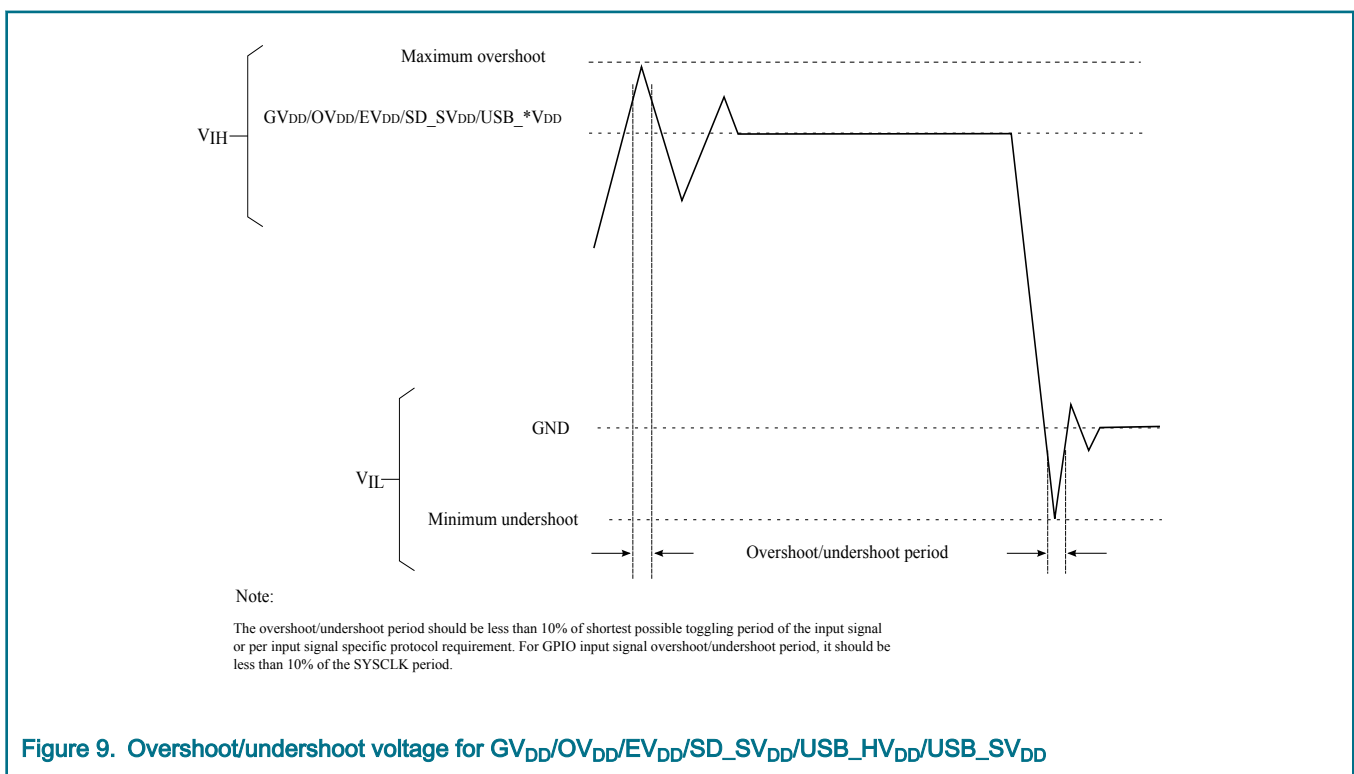

Figure 9. Overshoot/undershoot voltage for $GV_{DD}/OV_{DD}/EV_{DD}/SD_SV_{DD}/USB_HV_{DD}/USB_SV_{DD}$
2. Operation at 0.88V is allowable for up to 25 ms at initial power on. 3. Voltage ID (VID) operating range is between 0.775 V to 0.85 V. It is highly recommended to select a PMBus style regulator with a V_{out} range of at least 0.7 V to 0.9 V, with resolution of 12.5 mV or better. 4. AV_{DD} , AV_{DD_D1} , and AV_{DD_D2} are measured at the input to the filter and not at the pin of the device. 5. TA_PROG_SFP must be supplied 1.8V and the chip must operate in the specified fuse programming temperature range only during secure boot fuse programming. For all other operating conditions, $PROG_SFP$ must be tied to GND, subject to the power sequencing constraints shown in Power Sequencing. 6. See Figure 9 .